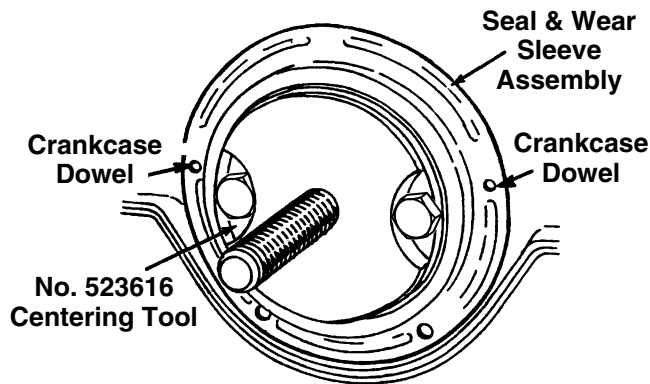

Figure 5
- Place the seal and wear sleeve assembly over the centering tool. See Figure 5.